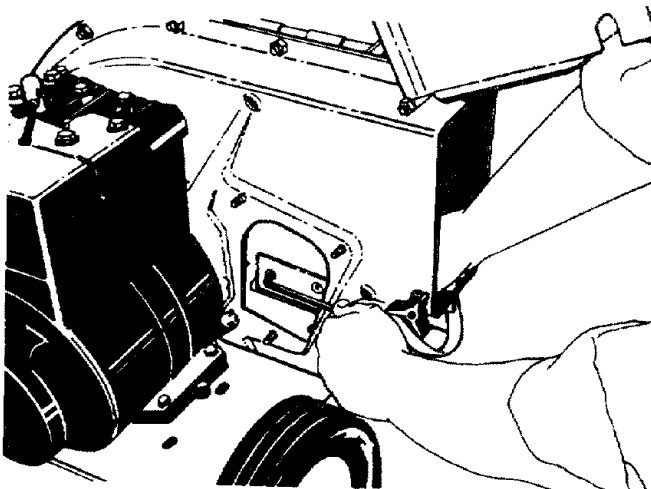

FIGURE 18.
- Rotate the impeller assembly by hand until you locate one of the chipper blades in the chipper chute opening. Remove the blade, using a 3/16" allen wrench on the outside of the blade and 1/2" wrench on the impeller assembly (inside the housing). See figure 18.
Make certain blades are reassembled with the sharp edge facing the direction shown in figure 18 (sharp edge is assembled toward the slotted opening in the impeller assembly).